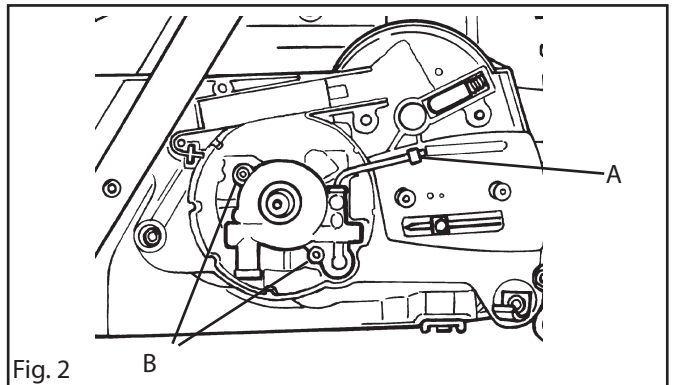

Fig. 2
4. Fit the clutch drum (C) together with the needle roller bearing (D) and chain drive-wheel (E). Grease the needle roller bearing before assembly. See fig. 2.
5. Fit the washer and circlip (B). See fig. 2.
4. Use a screwdriver and lift the oil pipe forward at A. Lift up the pipe and pull it out of the oil pump. See fig. 2.
5. Remove the two bolts (B) and lift the oil pump from the crankcase. See fig. 2.